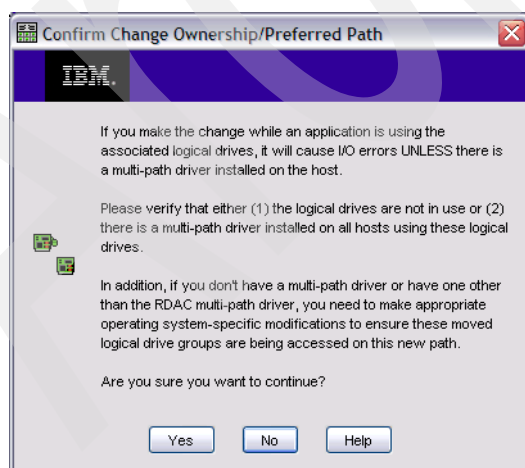

Figure 11-33 Confirm Change Ownership/Preferred Path
2. Review the message in Figure 11-33 and click **Yes**.